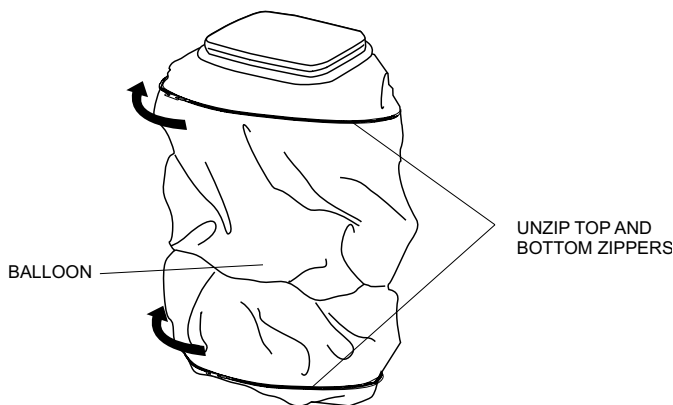

Figure 38. Unzipping Balloon
1. Unzip the top and bottom of the balloon. See Figure 38.